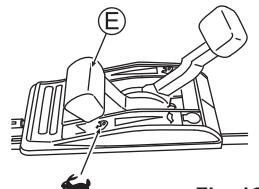

Fig. 16
2. Set the throttle lever (E) to " " to start mowing. (See Fig. 16)